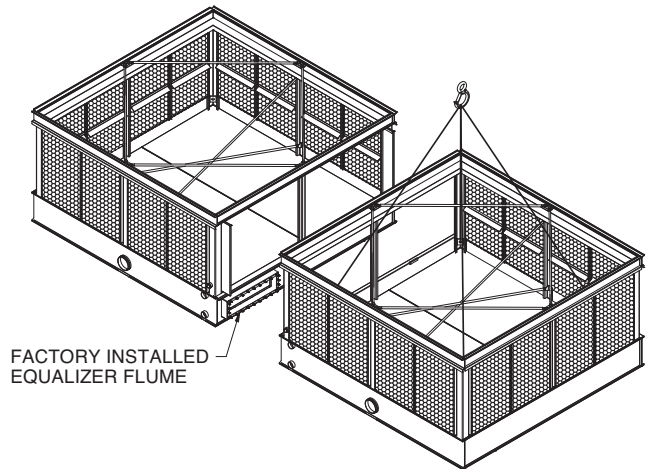

Figure 4 – Equalizer Flume Rigging Detail.
4. Rig the second bottom section adjacent to the equalizer flume on the steel support as shown in Figure 4.